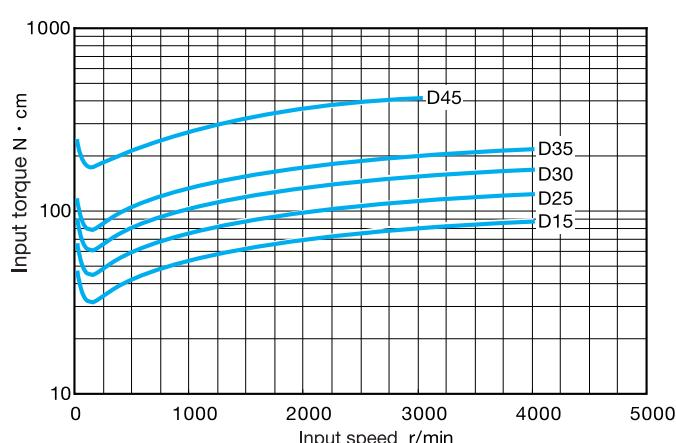

Fig. D-8
- Fig. D-8 shows average data after reducers have been run.